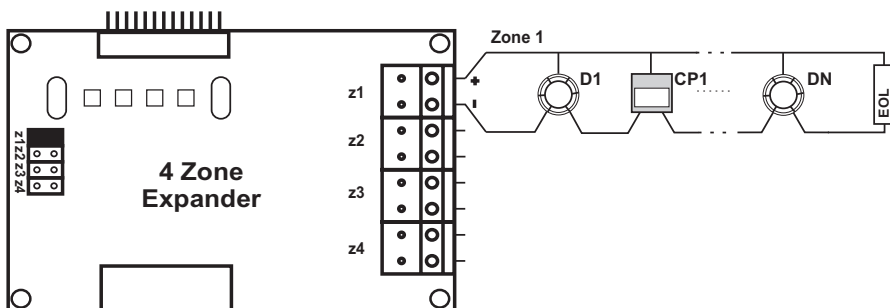

Figure 26. Example for Instant Action Mode Programming.
**Example:** If there are call points connected in **ZONE 1**, for the system to function properly there must be a jumper set at its zone expander at **z1** position, see also Figure 26.